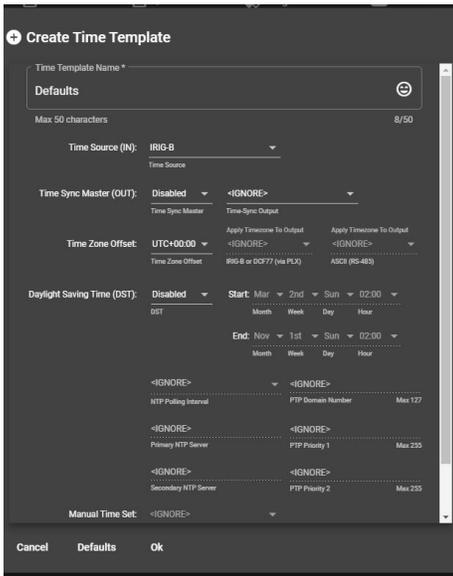

Figure 34.
**Step 2:** Provide a name for the SER time template. (Figure 34)